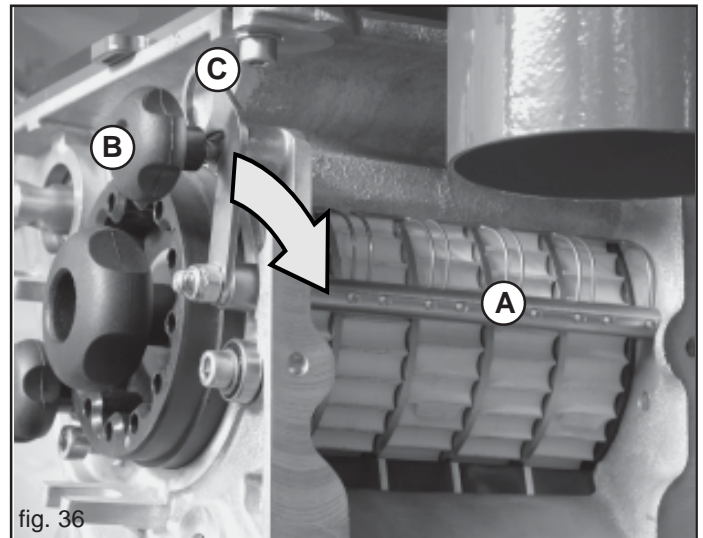

fig. 36
Cleaning spring elements (A, Fig. 36) are used during the distribution of oily seeds by means of the yellow seeding roller, mod. F25-125.
... loosen the knob (B, Fig. 36), remove the levers (C) from their housing and move them in the direction shown by the arrow.
- 1) Loosen and remove the knob (B, Fig. 36). Then, move the lever (C) in the direction shown by the arrow.